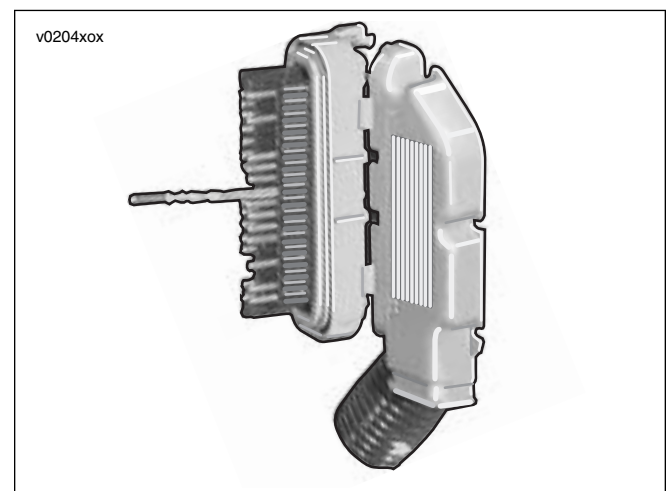

Figure 5-25. Terminal Replacement
4. See Figure 5-25. Push on desired wire from back of connector to expose wire terminal.